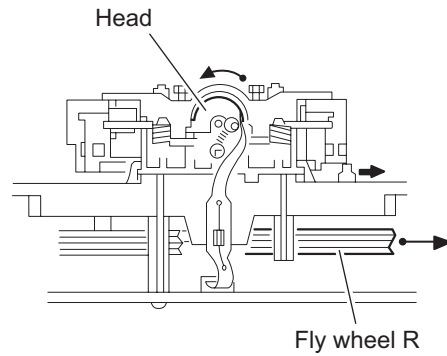

Fig.2
- (1) While moving the trigger arm on the right side of the head mount in the direction of the arrow, turn the flywheel **R** counterclockwise until the head mount comes ahead and clicks.
- (2) The head turns counterclockwise as you turn the flywheel **R** counterclockwise (See Fig.2 and 3).
- (3) Disconnect the flexible wire from connector CN31 on the head amplifier & mechanism control board.
- (4) Remove the spring from the back of the head.
- (5) Loosen the azimuth screw for reversing attaching the head.
- (6) Remove the head on the front side of the head mount.